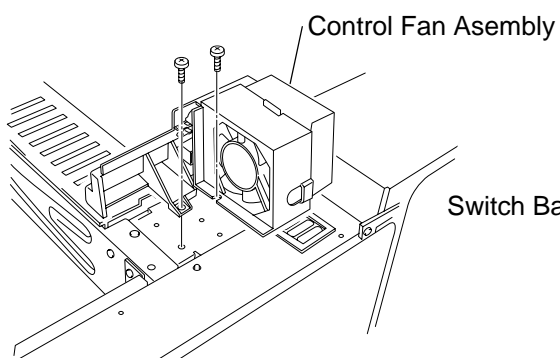

Fig.7-31
- 1) Remove the set screw BT3X8 (2 pcs) and washer holding the fan and interlock assembly. (Fig.7-31)